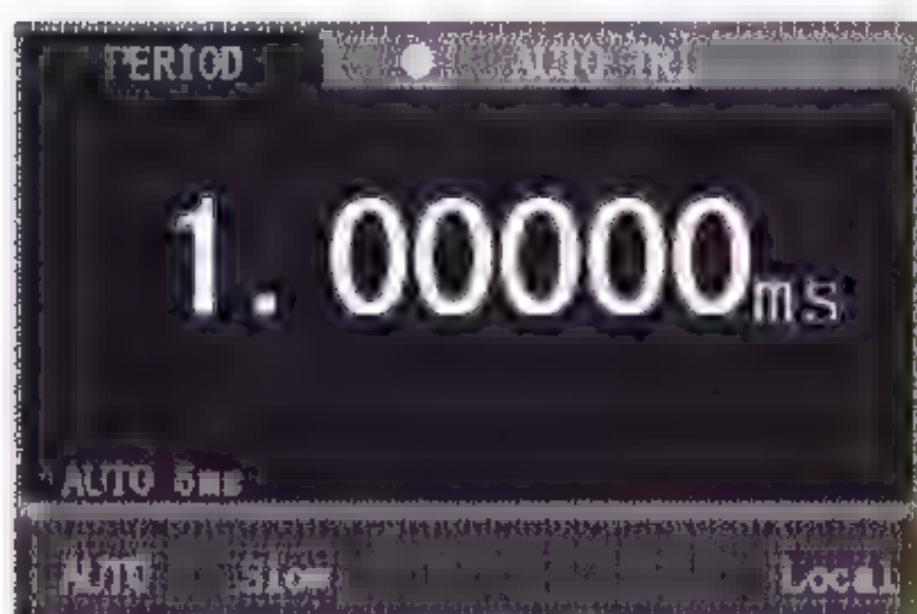

Figure 4-17 Measurement interface
- 1 In the frequency measurement function, press  again to select the period measurement function. The measurement interface is shown in Figure 4-17.